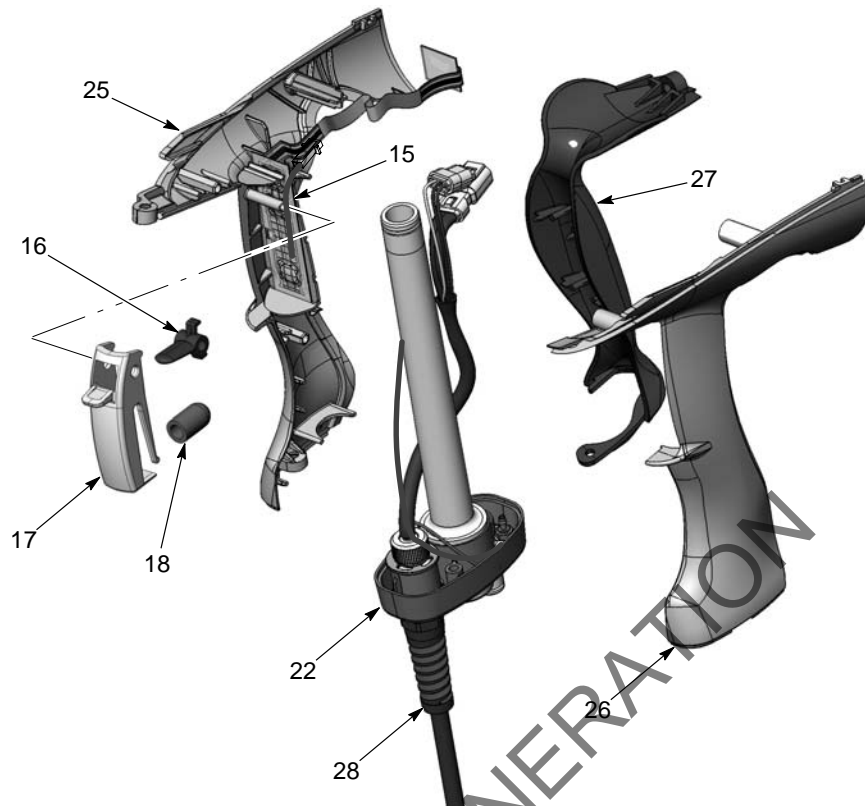

Figure 7 Separating Handles and Removing Trigger Switch
20. See Figure 7. Separate the right and left handles (25, 26).
22. Remove the trigger switch (15) from the right handle half.